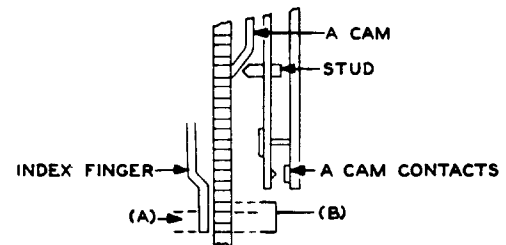

Fig. 16 - Method of Gauging "A" Cam Position
- (a) No. 1C and D-99325 Timers: Fig. 16(A) and (B) - With the end play of the timer gear taken up to the left, the position of the "A" cam shall be such that the "A" cam contacts close after the gear has rotated one tooth movement from the normal position and before the gear has rotated 1-1/3 tooth movement from the normal position.